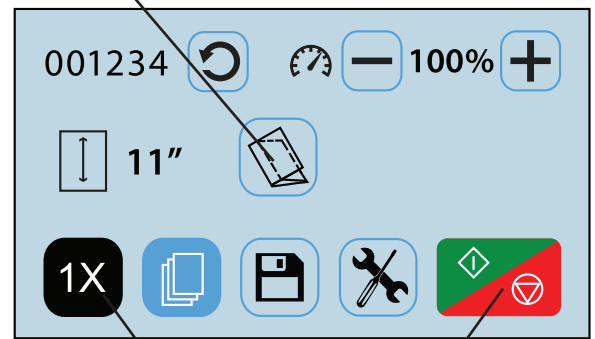

Fig. 9
9. Select the type of fold desired by pressing the fold selection icon  (Fig. 9). Note: *If the fold selection icon shows the desired fold press the “Start/Stop” icon  (Fig. 9) to begin folding.*
13. Press the “-” or “+” icons (Fig. 9) to adjust machine speed to desired level.
The FD 38Xi has 36 custom fold settings that can be stored into memory for recurring jobs with fold settings that differ from the standard fold settings. To create a custom fold, from the Home Screen press the fold selection icon  to access the fold selection screen (Fig. 9) From the fold selection screen press the Custom Fold icon . See page 13 to help determine the new fold measurements.